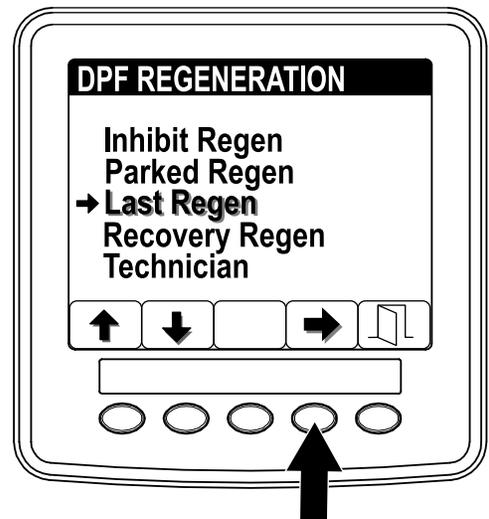

Figure 5
1. Access the DPF Regeneration menu, and press buttons 1 or 2 to scroll to the LAST REGEN option (Figure 5).
2. Press the button 4 to select the Last Regen entry (Figure 5).